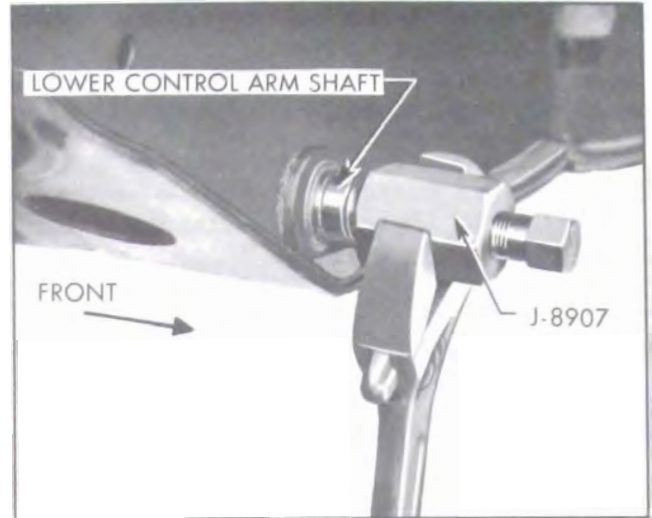

Figure 7-18—Installing Front Lower Control Arm Shaft
5. Install Installer & Remover J-8907 on front of shaft as in Step 2. Lightly coat shaft to front suspension cross member threads with lubriplate. See Figure 7-18.